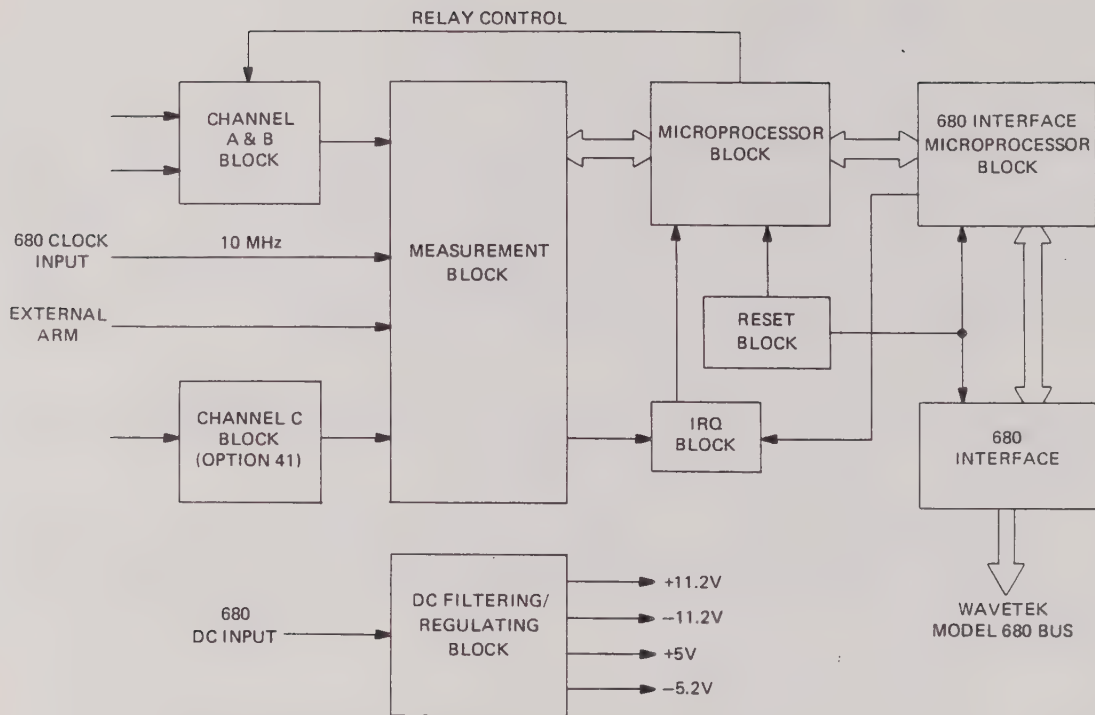

Figure 5.1 - Simplified 1993 Block Diagram
5.1.2 The theory of operation provided is based on the simplified overall block diagram shown in Figure 5.1. Key circuit blocks of the 1993 are described and supported in this section using simplified block and schematic diagrams. These diagrams supplement the complete schematics found in Section 7 of this manual. As much as possible, the simplified schematic and block diagrams provided here use the same reference designators found in the complete schematics. This should facilitate cross-referencing between this section of the manual and the schematics.
5.2.2 The functional relationship between the blocks of the 1993 is illustrated in Figure 5.1. The measurement block is internally configured by the microprocessor according to the instructions entered via the the 680 keyboard or over the 680 interface bus. The signal to be measured and the signal from the frequency standard are fed to the measurement block. The measured result is passed to the microprocessor. If mathematical manipulation of the result is required, this is performed by the microprocessor before the final output is passed to the system or the 680 display.